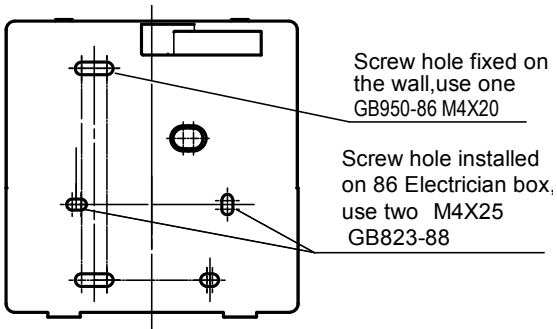

Figure 7.1
3) Use two M4X25 GB823-88 screws to install the back cover on the 86 electrician box, and use one GB950-86 M4X20 screws for fixing on the wall. (Fig.7.1)